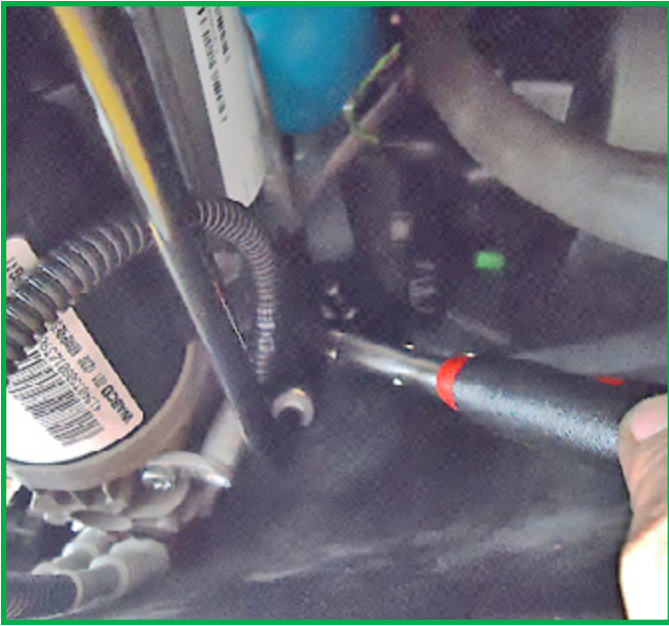

FIGURE 12
9. Locate the intake tube. Slide the spring clamp down the hose and disconnect from the compressor. (Figures 12, 13)